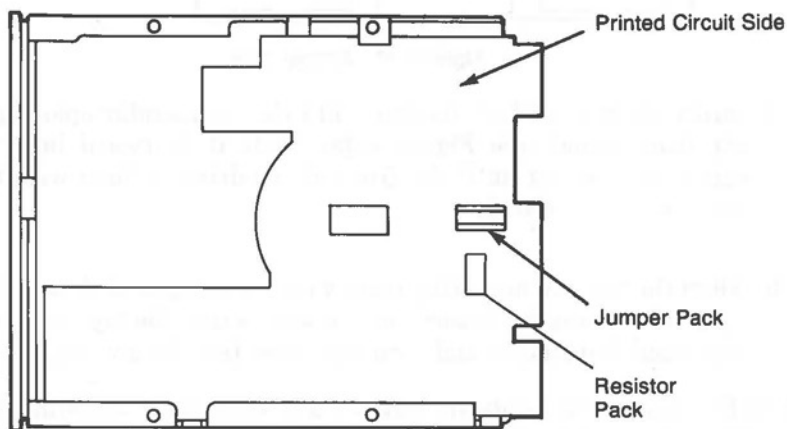
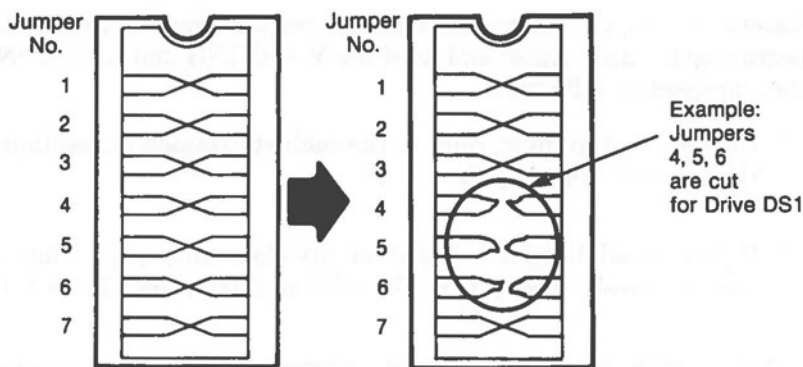

Figure 3-36 Jumper and Resistor Pack Locations
Figure 3-37 Jumper Cuts
4. Position the fixed disk drive as shown in Figure 3-36 and locate the jumper pack on the printed circuit side of the drive. Use Figure 3-37 to configure your jumper pack; cut the jumpers as follows: